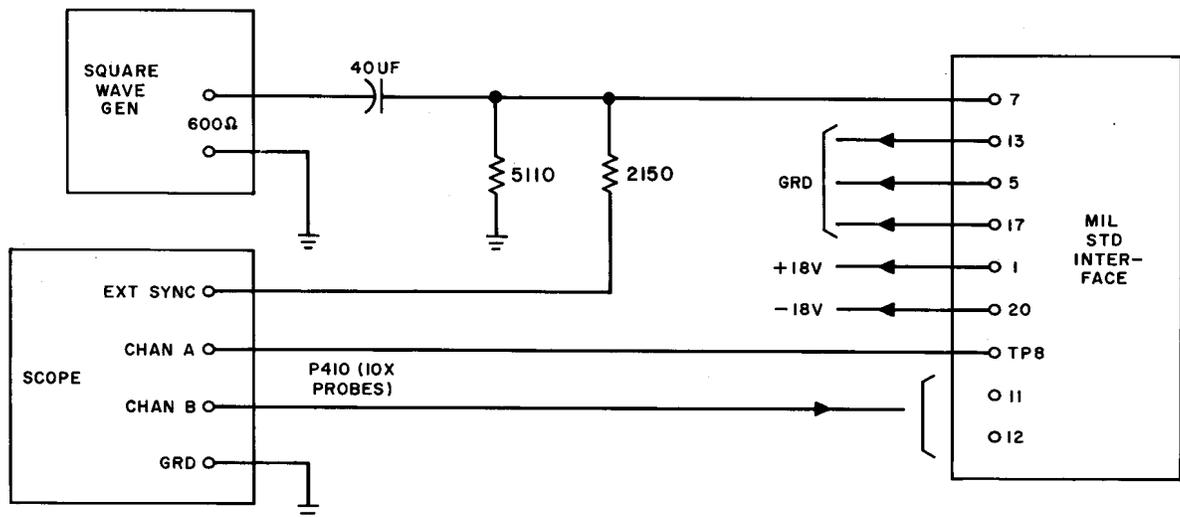

Fig. 62A — MIL. STD 188B Interface Test Circuit
- (1) Connect the circuit pack to the suggested test circuit shown in Fig. 62A.
- (2) Set the frequency of the square-wave generator to 5000 Hz (± 5 percent) with a duty cycle of 50 percent. Set the amplitude of the input pulse on terminal 7 (test point 8) to 12.0 (± 0.6) Vdc.